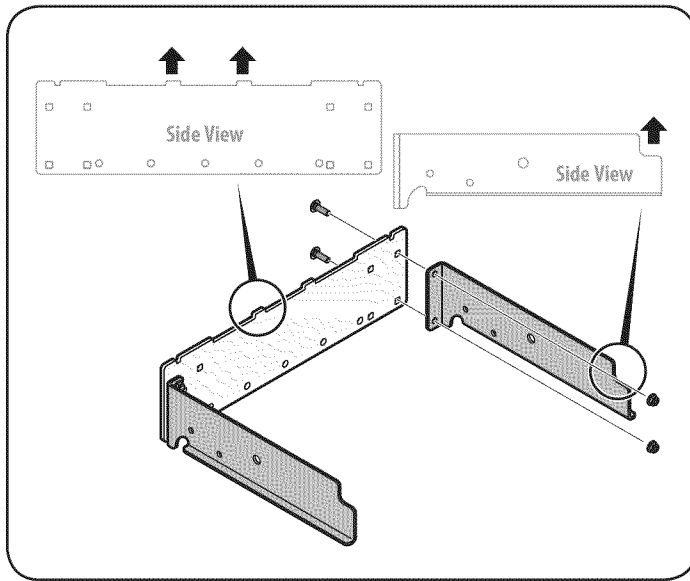

Figure 1
1. Attach the right-hand and left-hand rider hitch bracket to the universal rear attachment bracket using the four carriage bolts (710-0276) and flange lock nuts (712-04063) from hardware pack 689-00097. Position the brackets with the notches on the right-hand and left-hand rider hitch brackets and the tabs on the universal rear attachment bracket, pointing upwards. See Fig. 1.